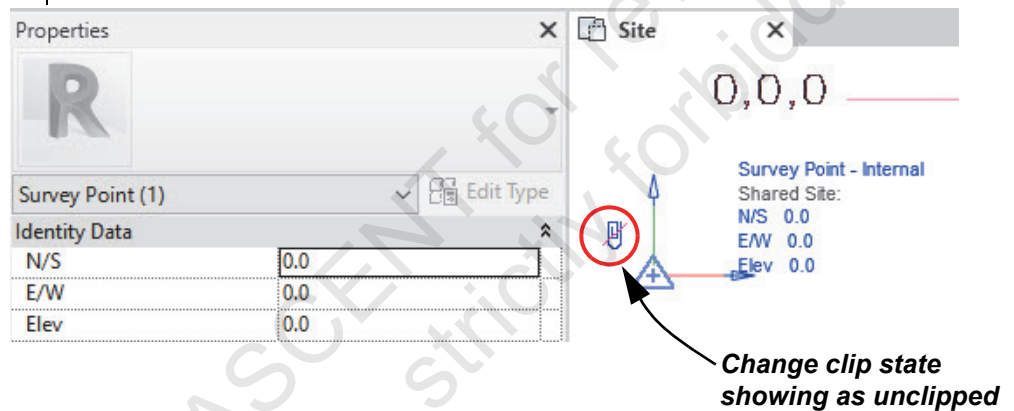

Figure 1–29
1. In the view, select the survey point and click  (Change clip state of point) to unclip it, as shown in Figure 1–29. Note that *N/S*, *E/W*, and *Elev* are now editable in Properties.